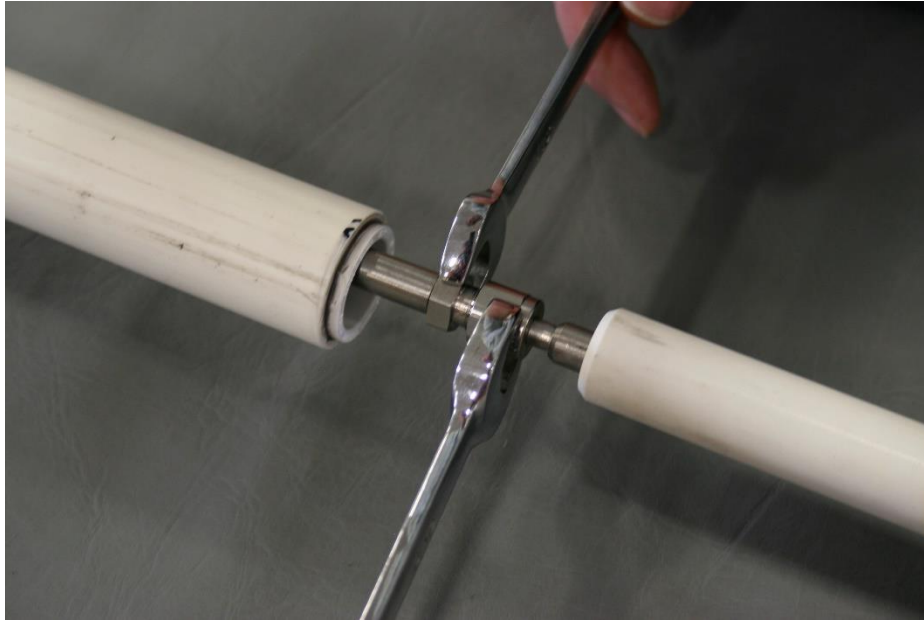

FIGURE 4-12 TIGHTENING THE SWIVEL NUT
- 15 Using ½" and 9/16" imperial wrenches, securely tighten the swivel nut and threaded connector (see Figure 4-12).